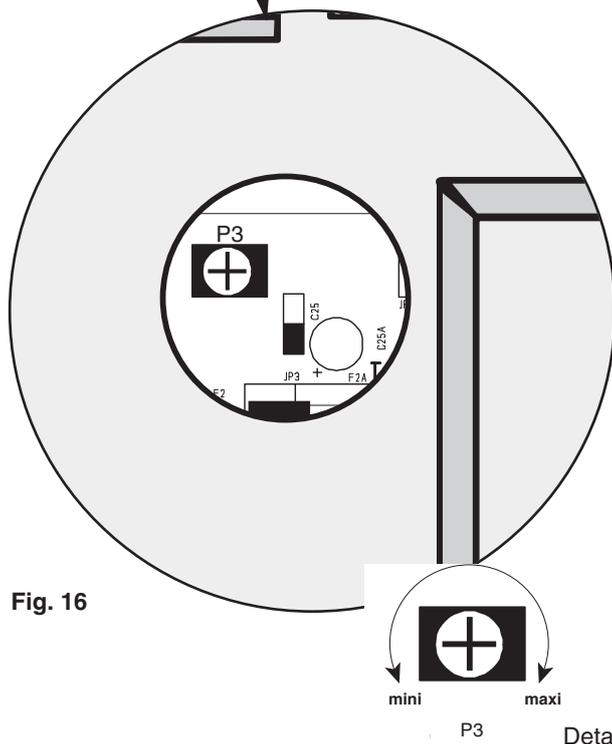

Fig. 16
**Adjustment on the PCB Central Heating Mode (fig. 16) :**